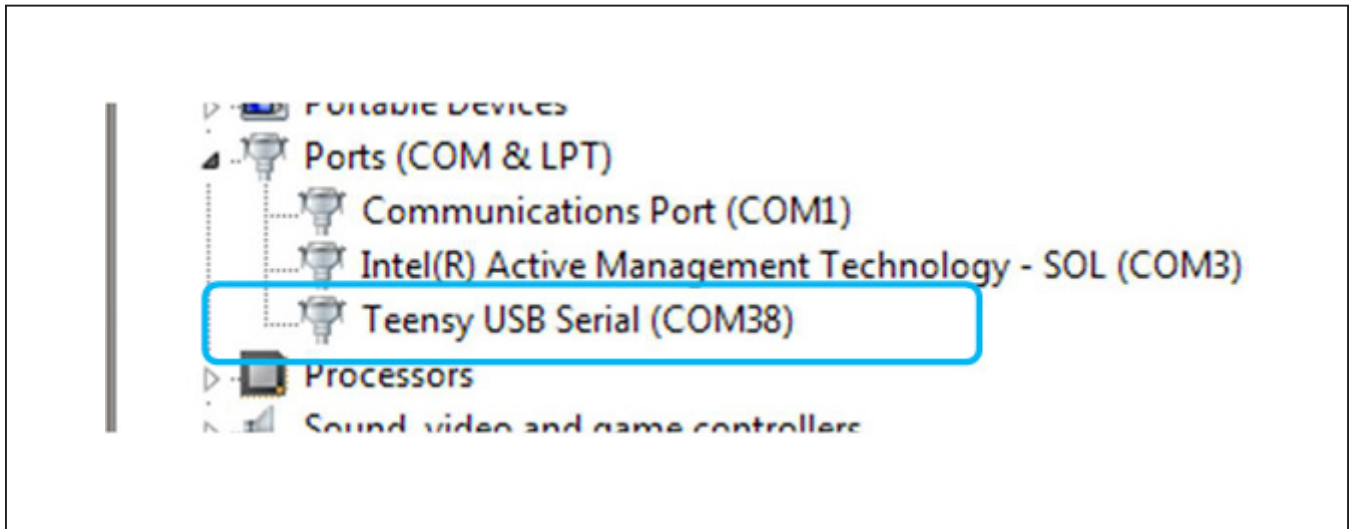

Figure 1. USB Driver Installation Status
- 3) Check USB driver installation status: if Windows successfully installs the USB driver, a new device called “Teensy USB Serial” should appear in the Windows Device Manager (Figure 1).